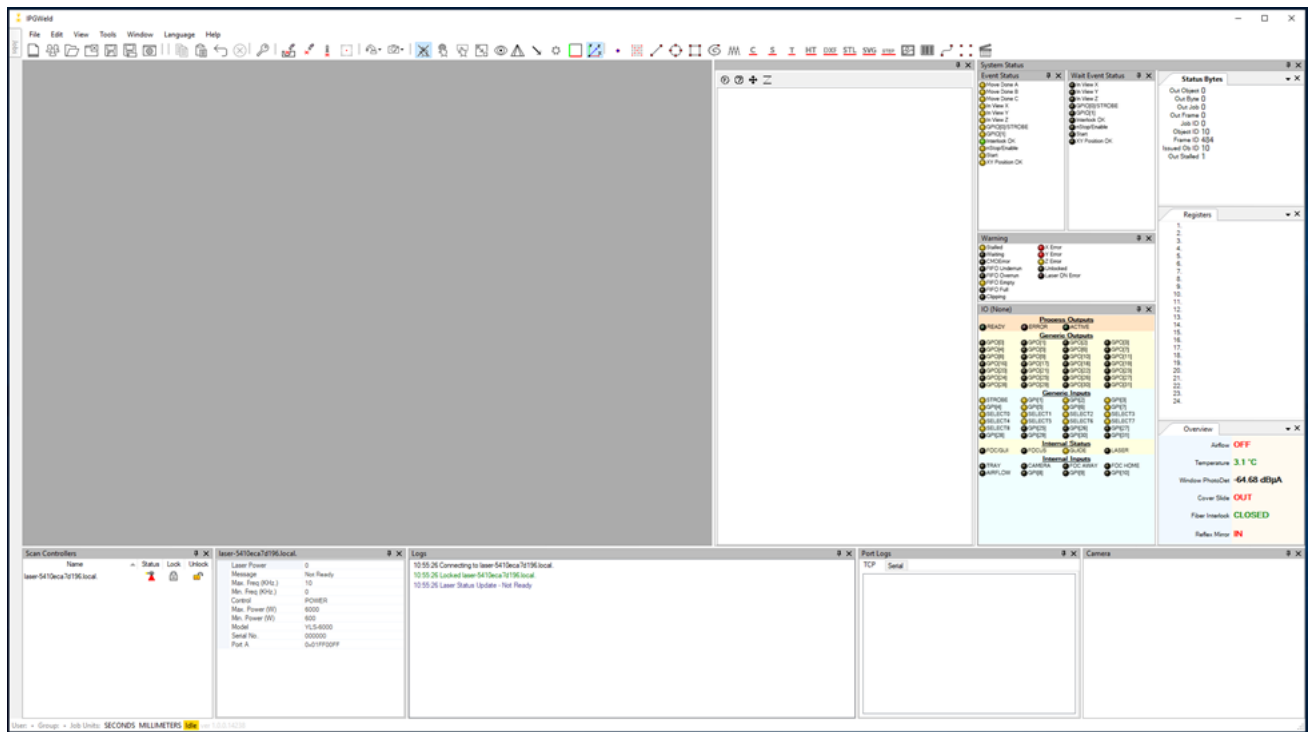

Figure 19: IPGScan Workspace
5. Click "Login". The IPGScan Workspace appears, as shown in Figure 19.